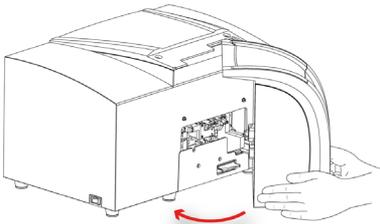

Figure 42: Closing Front Cover
4. Close the instrument's front cover (Figure 42). Gently push the front cover into place, making sure to push it all the way into place. Two bolts and a pin secure the cover.